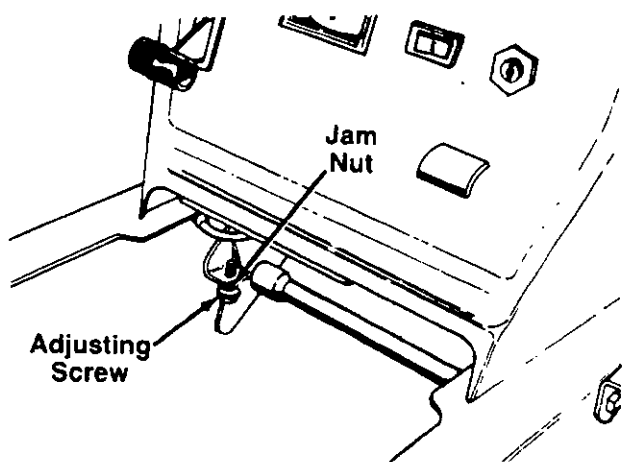

FIGURE 18.
2. Using a 1/2" wrench, loosen the jam nut. See figure 18.